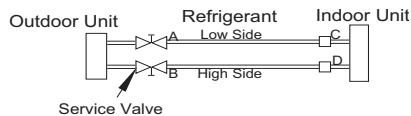

Fig. 13 – Service Valve
1. Completely tighten flare nuts A, B, C, D, connect the manifold gage charge hose to a charge port of the low side service valve (see Fig. 13).